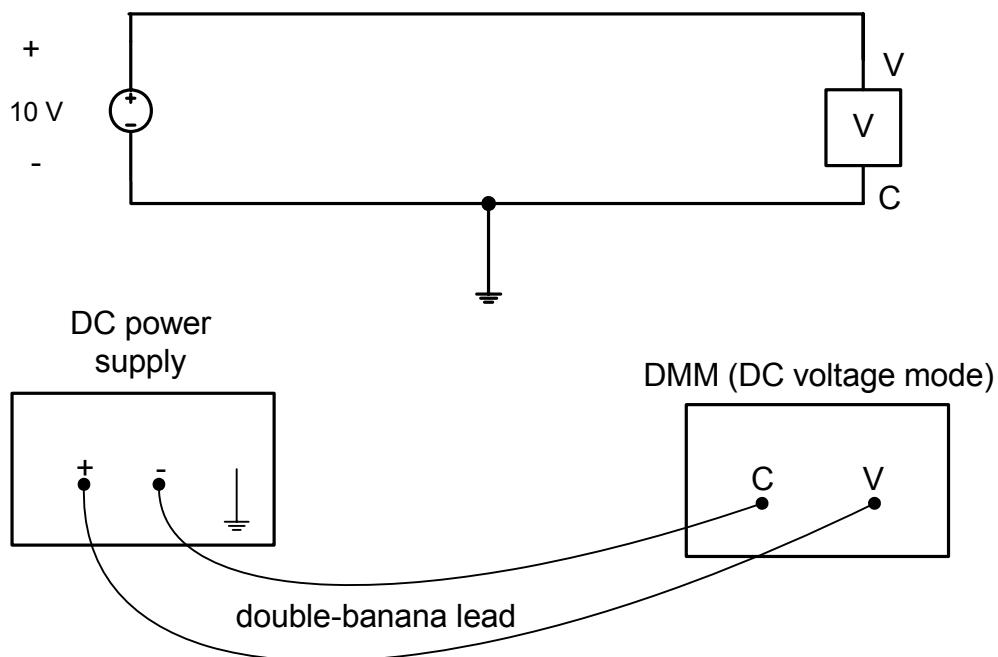

Figure EE.1
**Step 2:** Select an appropriate range (7) for reading voltages of about 10V.
- Step 4:** Push the power button or switch (1). If you are using the GPS-3303 make sure both tracking mode switches (14) are “out”, i.e. disengaged.
- Step 5:** Connect the free plug of the two-wire lead that you connected to the DMM to the output of the DC power supply according to Figure EE.1 on the next page and as shown below. For the HP Model 6218A the output voltage appears between the (+) and (-) terminals (8) for the GPS-3303 between the (+) and (-) terminals of (10) or (11) depending on if CH1 or CH2 is used. If you are using the GPS-3303 push in the output button (15) – the output indicator light should be on.